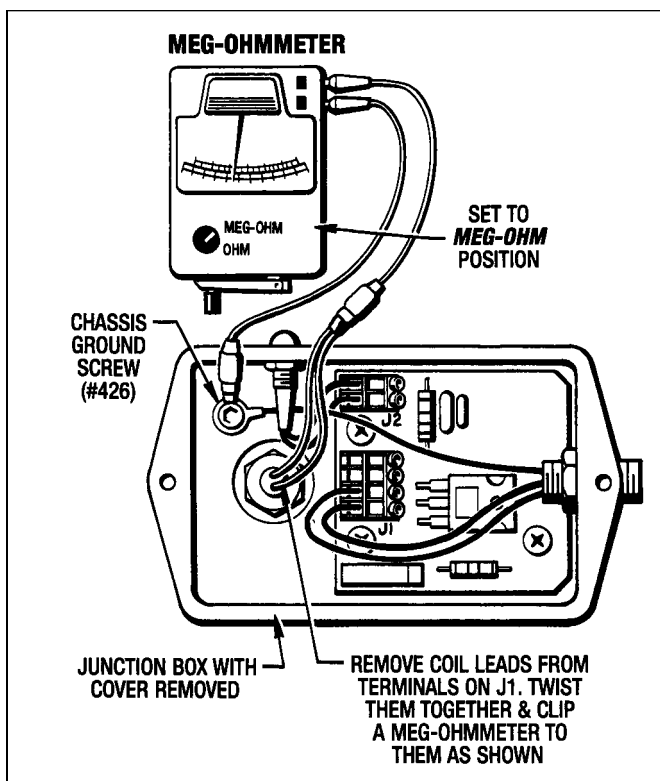

Figure 6.2- Coil Current Leakage Testing
Connect (1) alligator clip to both Coil Leads and the other one to Chassis Ground Screw (#426). (See Figure 6.2)